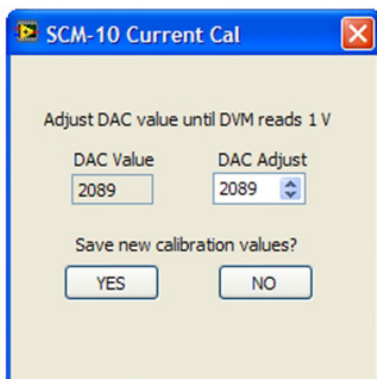

Figure 6.3
5. The next screen is similar to Figure 6.3. Adjust the DAC value by clicking on the up or down keys on the screen, until the voltage reading on the DMM = (Value of the resistance standard/100000) V \pm 0.0001V. Click on "Yes" to save these calibration values.
5. The next screen is similar to Figure 6.3. Adjust the DAC value by clicking on the up or down keys on the screen, until the voltage reading on the DMM = (Value of the resistance standard/1000) V \pm 0.0001V . Click on "Yes" to save these calibration values.